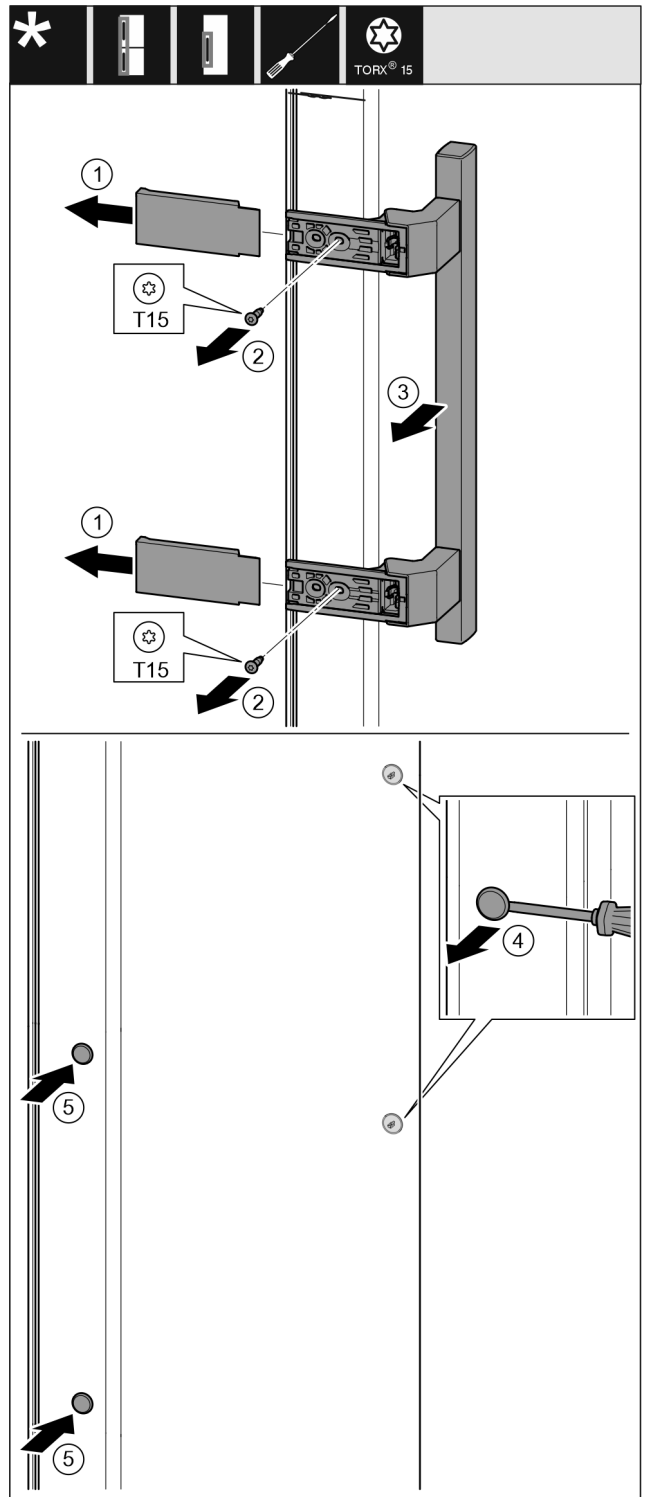

Fig. 15
- ▶ Pull off the cover. Fig. 15 (1)
- ▶ Unscrew the screws with a Torx 15 screwdriver. Fig. 15 (2)
- ▶ Take off the handle. Fig. 15 (3)
- ▶ Carefully lift the side plug with a slotted screwdriver and pull it out. Fig. 15 (4)
- ▶ Replace the plug on the other side. Fig. 15 (5)